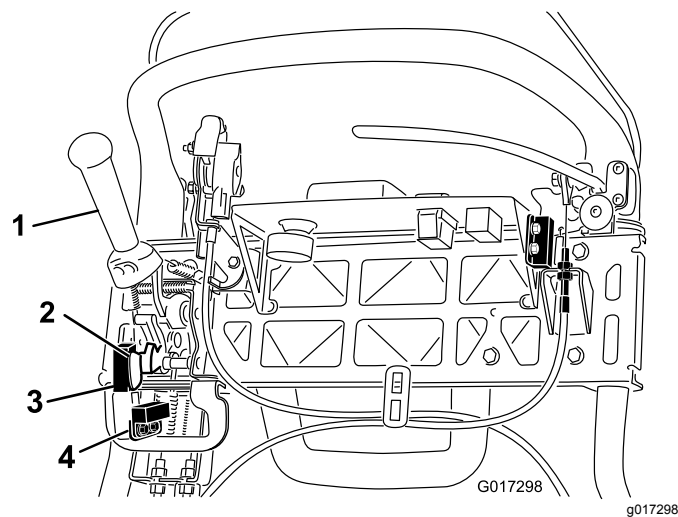

Figure 42
4. Loosen the interlock switch mounting fasteners (Figure 42).
5. Place a 0.062 inch (1.6 mm) thick shim between the traction lever and the interlock switch (Figure 42).
4. Loosen the mow sensor mounting fasteners (Figure 42).
5. Place a 1.6 mm (0.062 inch) thick shim between the mow sensor flag and the mow sensor (Figure 42).